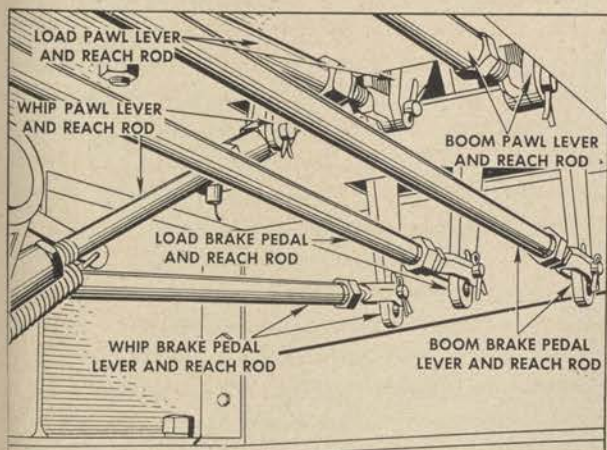

Figure 242. Linkage from control stand for raising boom.
d. *DRUM PAWL LINKAGE.* The pawl is operated by a hand lever through a linkage system of levers and reach rods. (See fig. 242.) Movement of the